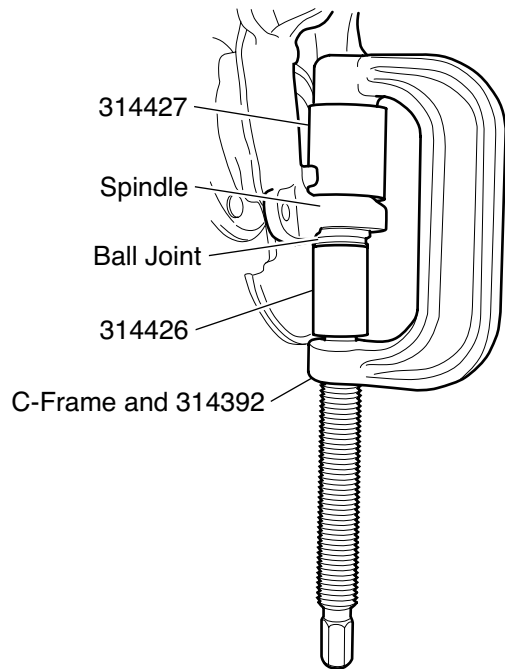

Figure 1. Ball Joint Removal
3. Position 314427, 314392 and the C-Frame as shown in Figure 1.